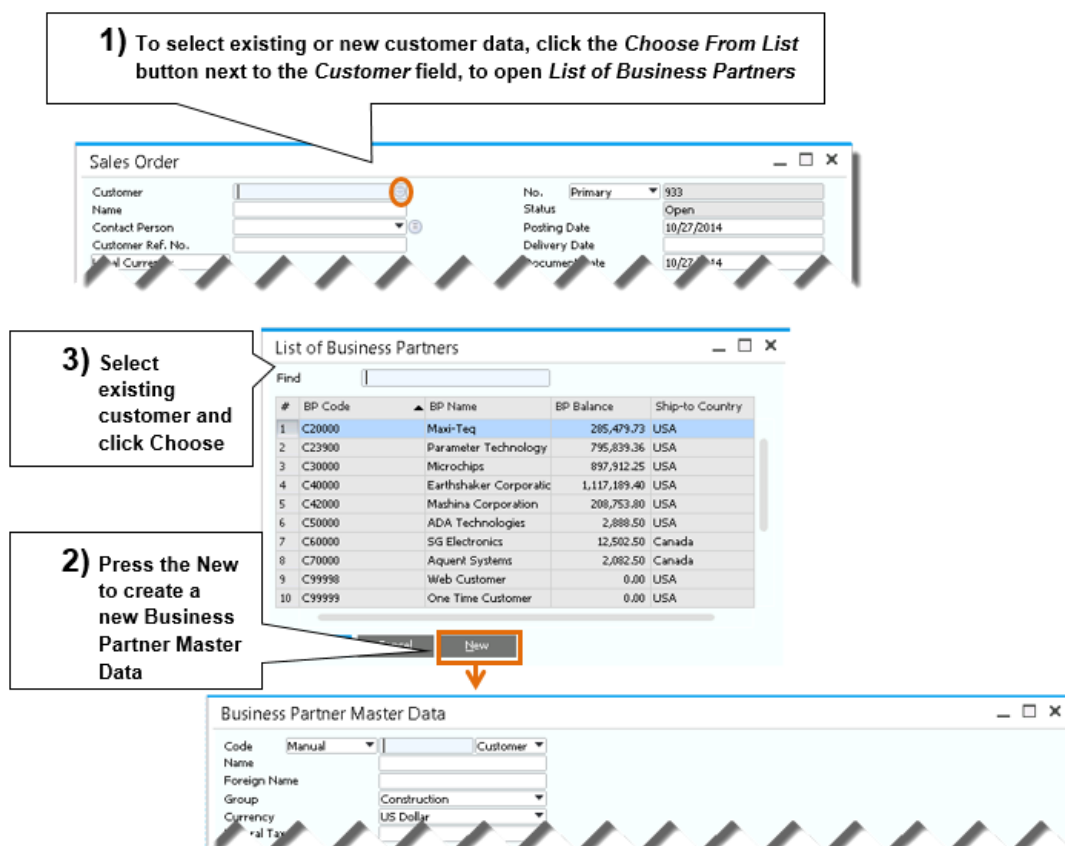

Figure 5-3: Specifying a customer in a sales document
To locate existing customer information, click on the button to the right of the **Customer** field in the document header or press the **Tab** key or the **Choose from List** icon in the **Customer** field. The **List of Business Partners** window appears (see Figure 5-3).
- Customer field: See Figure 5-3